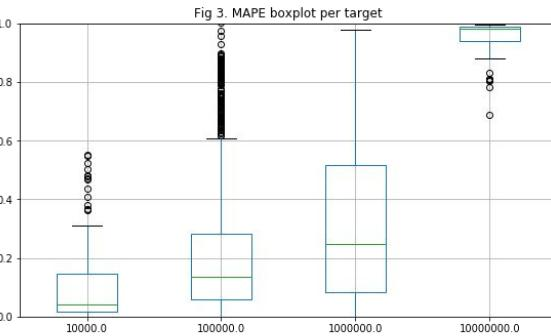

Fig 3. MAPE boxplot per target
- Fig 3. shows that **the greater the target value, the worse the prediction**, both in term of absolute value and in term of confidence interval.
- Fig 3 shows a scatter of target vs prediction of  $\text{sum}(\text{return\_flow})$  with a simple lightgbm regressor using only 3 features (pipeline, input\_recipe & object\_id). Visually, the prediction seems reasonably good.